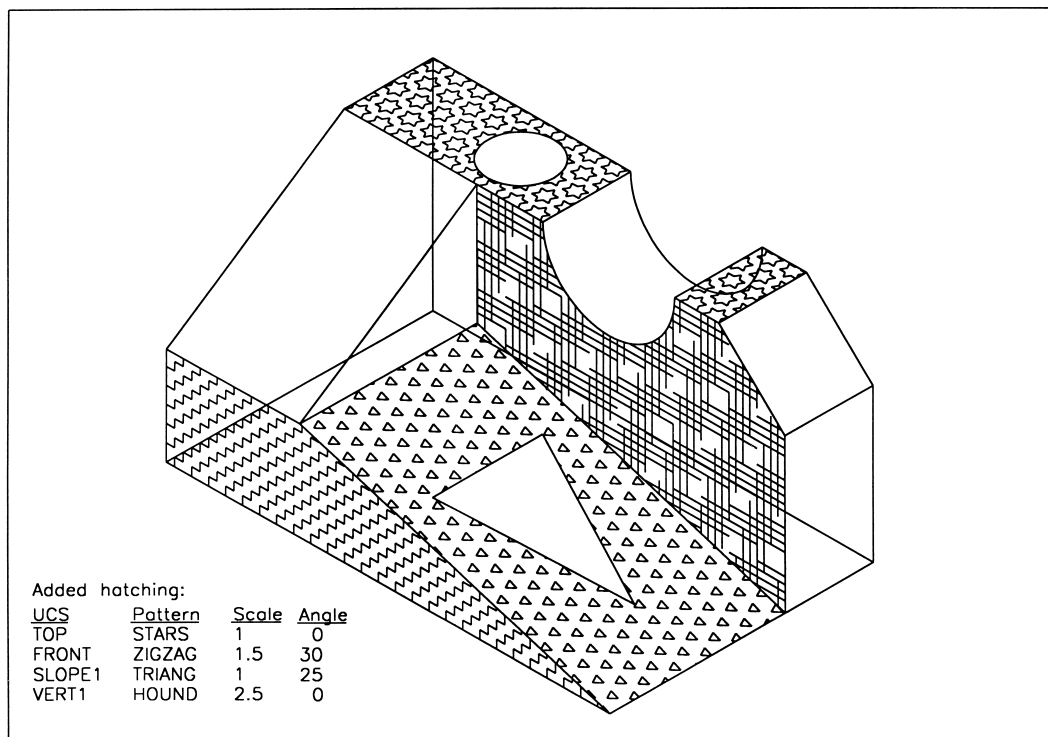

Figure 8.3 Hatch exercise with 3DWFM.
- 1 Open the drawing C:\MODR2002\3DWFM and refer to Fig. 8.3